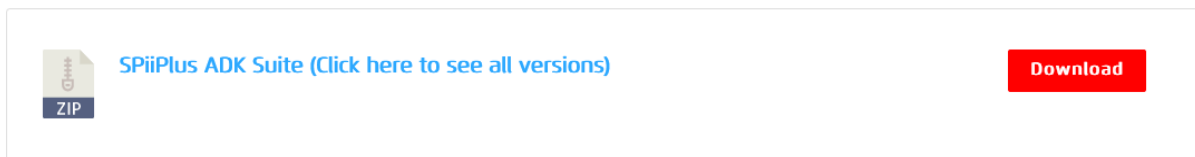

Figure 2-1. SPiiPlus ADK Suite on Resources Page of the ACS Website
3. Select the SPiiPlus ADK Suite Zip file (see Figure 2-1). Click **Download**.